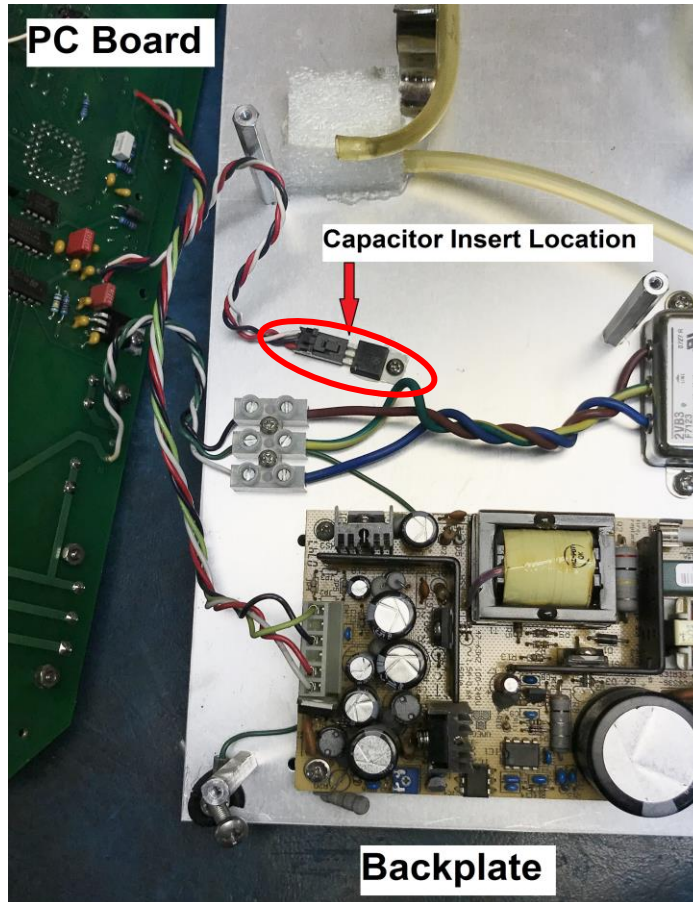

Figure 2 - Haloguard® III Backplate showing Pump
- 4) On the back-plate, locate the capacitor assembly insertion location - as shown in Figure 2. This is the point where the 3-conductor cable attaches to the 7812 voltage regulator that is mounted to the back-plate. *Note: this 3-wire cable may be colored WHITE, BLACK, RED (as shown in Figure 2) or GREEN, BLACK, RED depending on the age of the Haloguard® unit.*